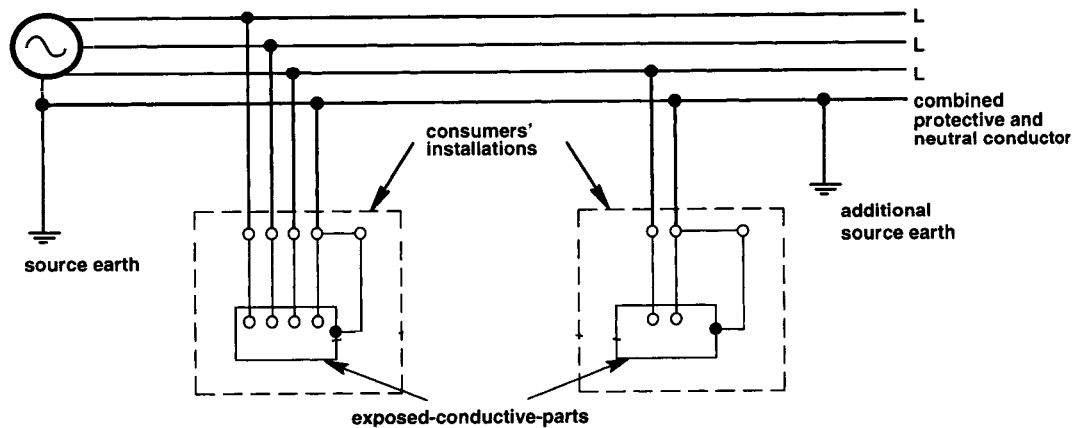

Fig A-1 – TN-C-S (PME) system
**TN-C-S system:** Both TN-C and TN-S configurations are used in different parts of the system. This configuration is also known as '*Protective Multiple Earthing*' (*PME*). (Figure A-1) The TN-C-S system is the most common system worldwide, used in the Americas,